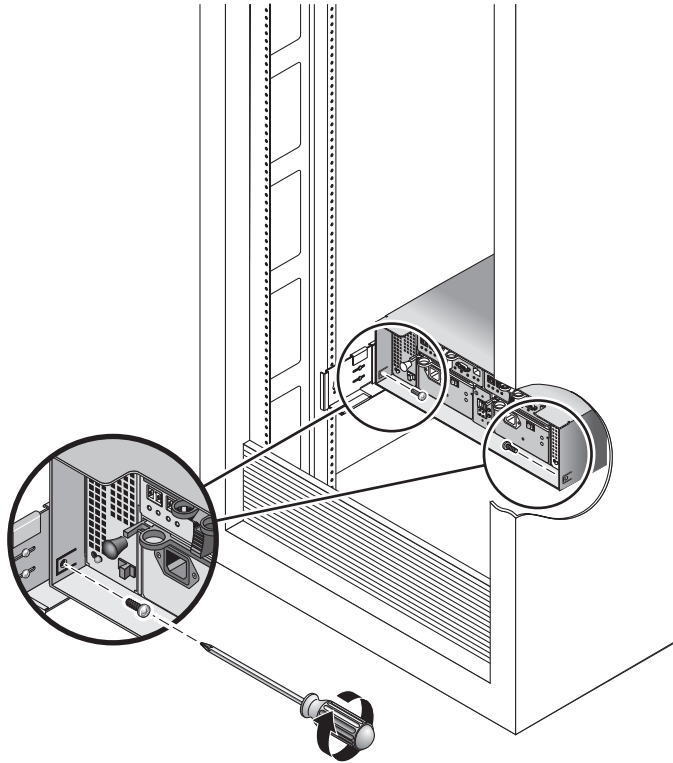

FIGURE 2-13 Securing the Enclosure to the Back of the Cabinet
6. At the back of the enclosure, install and tighten two 8-32 screws (one per side) to secure the back of the enclosure to the cabinet (FIGURE 2-13).